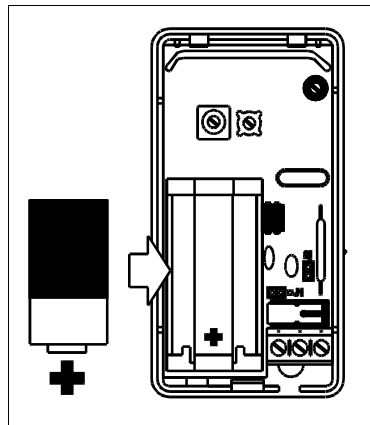

Fig. 3 Installing the battery
2. Insert the battery. Observe battery polarity. Insert battery with positive (+) terminal toward terminal block. See Fig. 3. The battery will not make contact if inserted backwards.